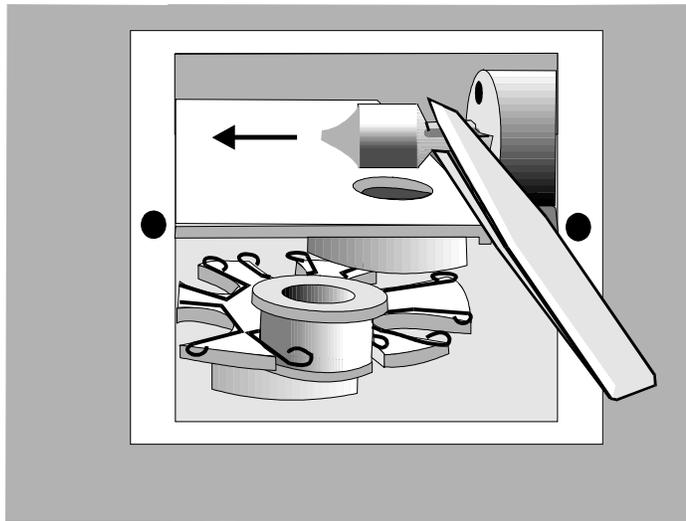

Figure 35. Removing the Lamp
- Grasp the lamp with plastic tweezers and pull the lamp out of its receptacle (Figure 35).